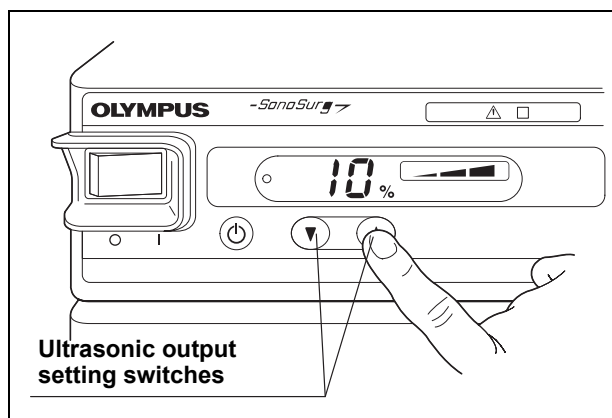

Figure 6.1
2. Set the output level by pressing the ultrasonic output setting switches (see Figure 6.1).